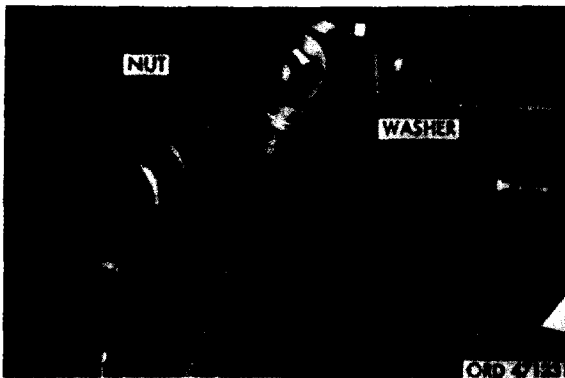

Figure 333. Shock absorber self-locking nut and washers
c. Remove Shock Absorbers (Fig. 333).
- (1) Remove upper and lower self-locking nut and washer (right and left side).
- (2) Remove shock absorber and rubber grommets (right and left side).
f. Install Shock Absorbers (Fig. 333). Place shock absorber on studs, and install upper and lower self-locking nut and washer (right and left side).